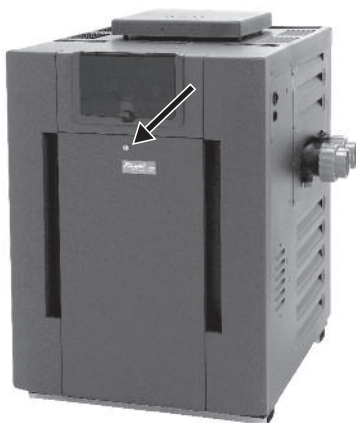

Fig. 1
2. Remove the front door from the heater. See Fig. 1.
23. Place the front door back onto the heater. Refer to Fig. 1.